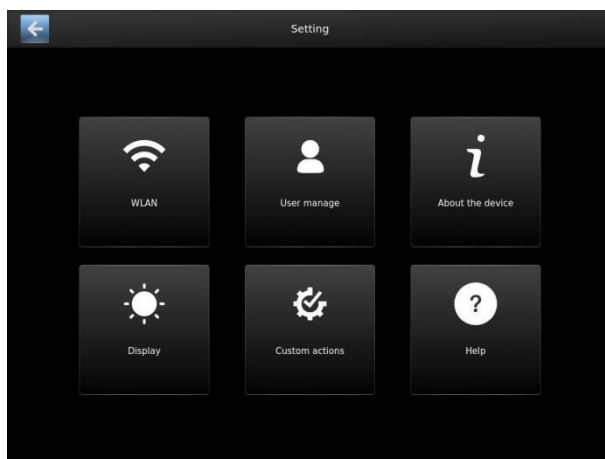

Fig. 2-1
- ① Tube diameter: The system automatically checks and displays the diameter of the current insertion tube.
- ② Image quality: adjust the image brightness, contrast, tone, saturation, definition and gamma, and restore defaults.
- ③ Rotation: rotate the real-time examination image clockwise by 90° each time.
- ④ Image freezing: freeze the real-time examination images.
- ⑤ Comparison: compare the real-time examination images with the saved images.
- ⑥ Settings: enter the setting interface where the following operations can be performed (as shown in Fig. 2-1):